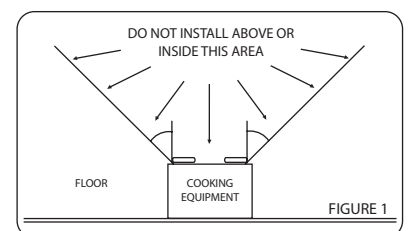

FIGURE 1
2. Not for use in a cooking area (Fig. 1)